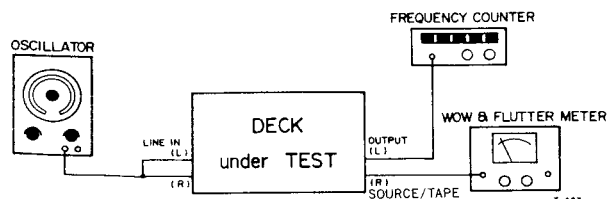

Fig. 7-5 Test Connections for Wow/Flutter and Tape Speed Test
1. Connect Test equipment to the unit as shown in Fig. 7-5. (Except oscillator).
1. Connect Test equipment to the unit as shown in Fig. 7-5.